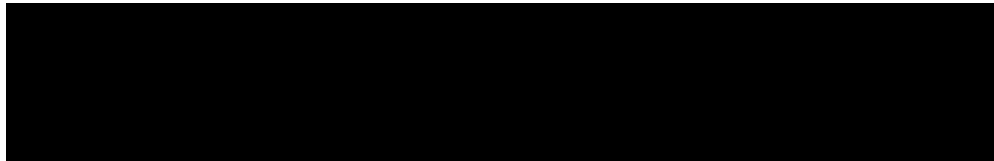

Figure 2.14: Matrix Setup for Circuit in Example 2.7 using the Mesh Matrix Rules
- 3) The matrix in Figure 2.14 produces positive  $I_1$ ,  $I_2$ , and  $I_3$  values so the currents are clockwise.